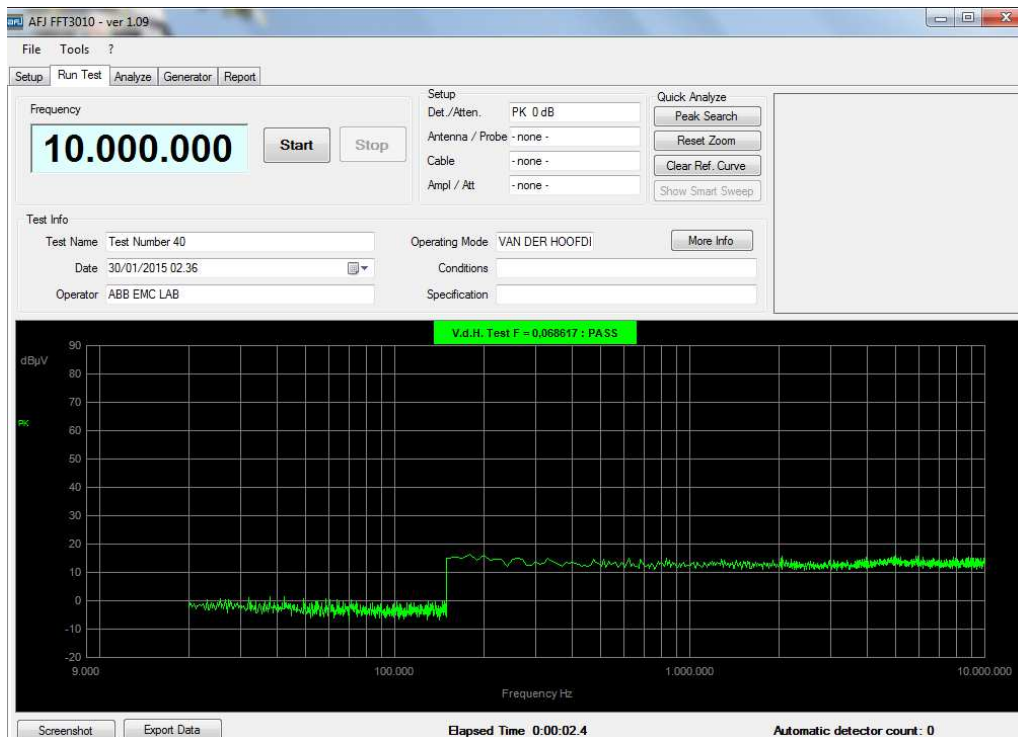

Fig. D.70: Van Der Hoofden Test result
When Van Der Hoofden Test operating mode is selected, at the end of the measurement the software will automatically show the F factor with either “PASS” ($F \leq 1$) or “FAIL” ($F > 1$) indication (Fig. D.70).
With reference to the example shown at Fig. D.70, the loaded Test is automatically use as a reference spectrum for data analysis reporting the waveforms with faded colors and the indication of the three detectors with (R), so PK(R), QP(R) and CAVG(R).